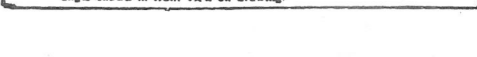

Fig. 6.
5. The Wings. On balsa sheet trace the ribs from the plan, or use the printed piece in the kit, and cut out the ribs carefully. Fasten them together with a couple of rubber bands. Sandpaper the ribs even and before taking apart cut any notches necessary as in Fig. 6. Note: If the plane you are building has different size ribs, cut the notches separately. Next lay out the leading and trailing edges on wing drawing in the plan view, and cement the ribs in place.